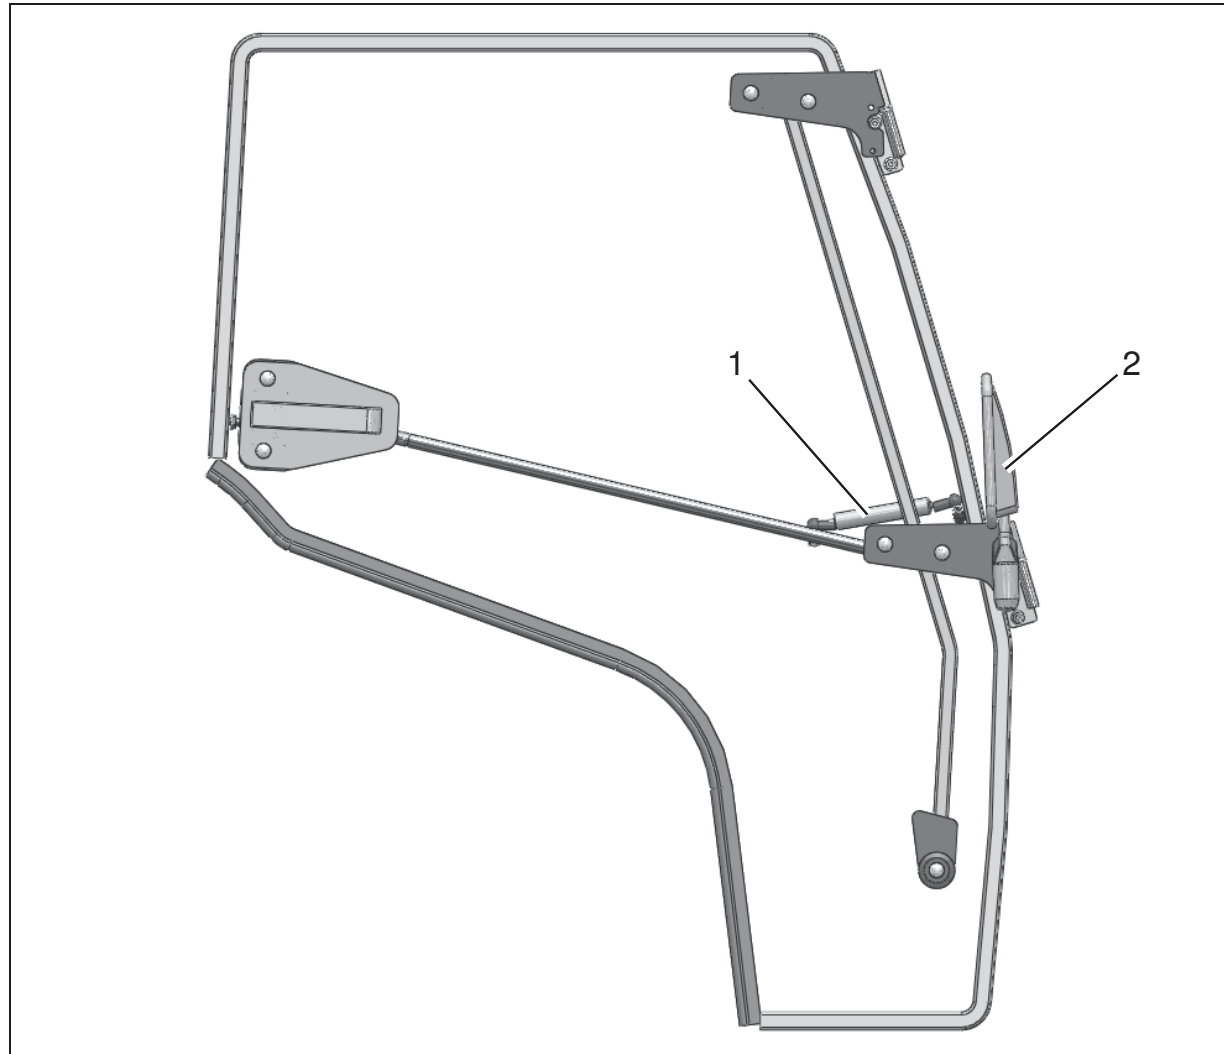

Fig. 10
5. Fix the stop brackets on the seat console (Fig. 10/2) to the left and right using \varnothing 4.8 mm self-tapping screws (\varnothing 3.8 mm hole) and attach the edge profile.
6. Install the gas springs (Fig. 10/1) on the left and right.
7. Assemble the wing mirrors (Fig. 10/2) on the left and right.